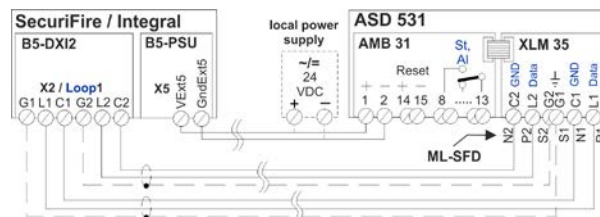

Fig. 38 Connection from XLM 35 / ML-SFD
- The connection and line routing between **XLM 35 / ML-SFD** and the SecuriFire and Integral FACP is to be carried out in accordance with **Fig. 38** (L1 to L1, C1 to C1 etc.).